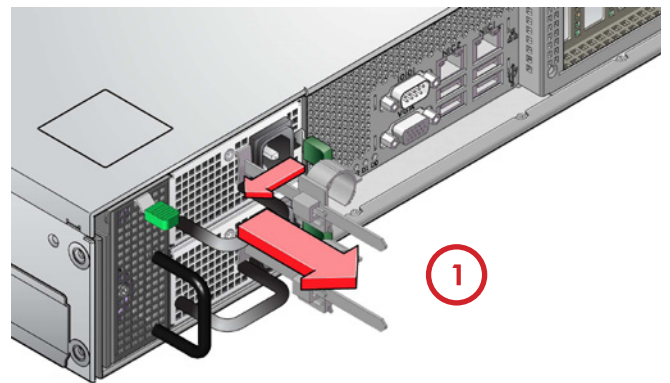

Figure 4a: Removing a PSU
3. Squeeze retaining handle to the left to release (see Figure 4a).